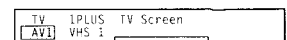

Fig. 45.
- 2 Select TV Screen (input source for the TV screen) or output (output source) with Δ + or ∇ - and press OK. One of the source items changes colour. (See Fig. 45)